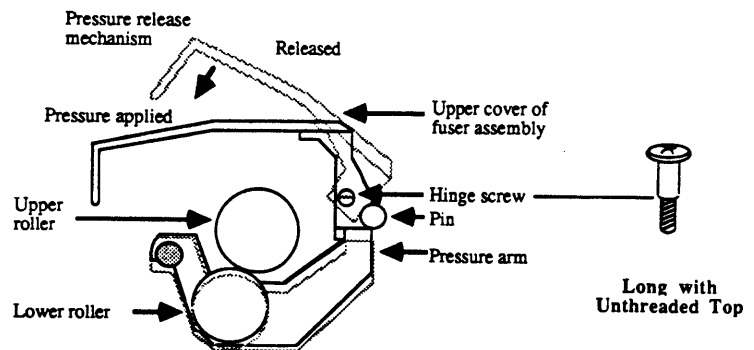

FIGURE 2-25
6. Replace the green cover and its two short black hinge-screws (Figure 2-25). Check for free motion of the cover and loosen screws if necessary.